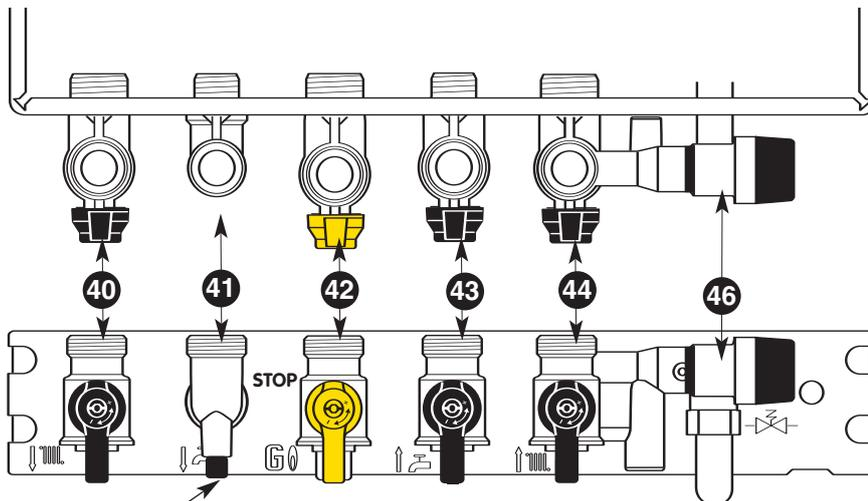

Fig. 21
Taps shown in Open position (Fig. 21)
3. Open the gas tap 42 (Fig.21).
Note : The configuration of the C.H. system can generate some gravity effect when the boiler is set in DHW mode only. It may result in a temperature rise of the heating pipes close to the boiler (or eventually a radiator). To avoid this it is possible during the summer period (Central Heating switched off) To close the Central Heating flow isolating tap (40 Fig. 21). Don't forget to open it before switching on the Central Heating mode again.
- Press on key 32  and 28  , to switch off both DHW and CH mode. The green indicators 33 and 29 will go out
- Shut off the gas service tap 42 (Fig. 21)
- Drain the water out the boiler with the drain valve 48 (Fig. 21)